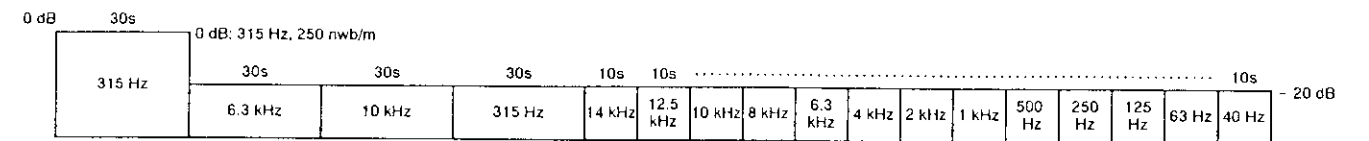

Fig. 5-2 Constants of the test tape STD-331E
- STD-331E : Playback adjustments (See Fig. 5-2)